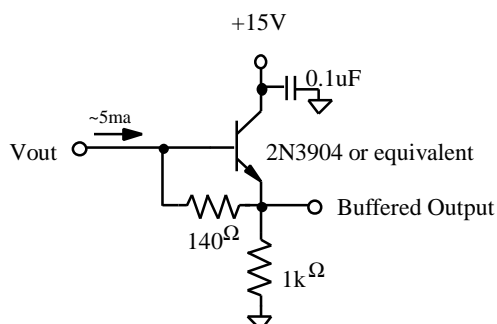

Figure 4 - Recommended Output Structure Load Diagram
Charge presented to the floating diffusion (FD) is converted into a voltage and current amplified in order to drive off-chip loads. The resulting voltage change seen at the output is linearly related to the amount of charge placed on FD. Once the signal has been sampled by the system electronics, the reset gate (ϕ_R) is clocked to remove the signal and FD is reset to the potential applied by VRD. More signal at the floating diffusion reduces the voltage seen at the output pin. In order to activate the output structure, an off-chip load must be added to the Vout pin of the device - see Figure 4. The amplifier has a 45MHz bandwidth.